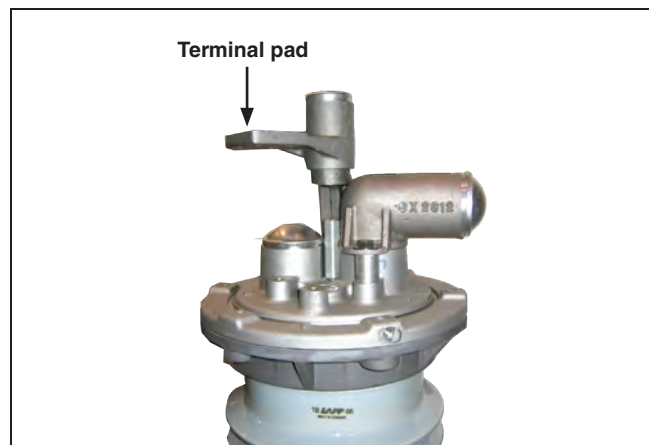

Figure 20. Attaching the terminal pad. Shown with option “-N” enhanced-visibility low-pressure indicator.
- STEP 7.** Attach the upper terminal pad using three $\frac{1}{2}$ -13 \times 1 $\frac{1}{4}$ -inch hex-head stainless steel cap screws and Belleville washers. See Figure 20.